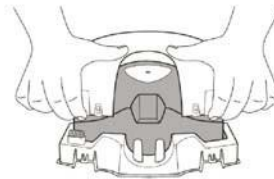

Figure 1
1. Unlatch the torso of the Prestan Professional Manikin by popping the 'tabs' located at the top of the shoulders (Figure 1). Carefully lift the torso frame open by the neck.